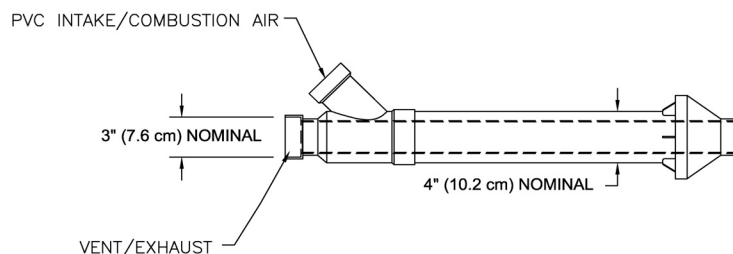

Figure 19. Dimensional Layout of Concentric Vent Kit
If assembly is too short to meet height requirements, the two pipes supplied in the kit may be replaced by using the same diameter pipe. DO NOT extend the overall dimension by more than 60 inches (152.4 cm). See Figure 19.
1. Become familiar with coaxial vent kit part no. 239-44069-02 as shown in Figures 19 through 21.